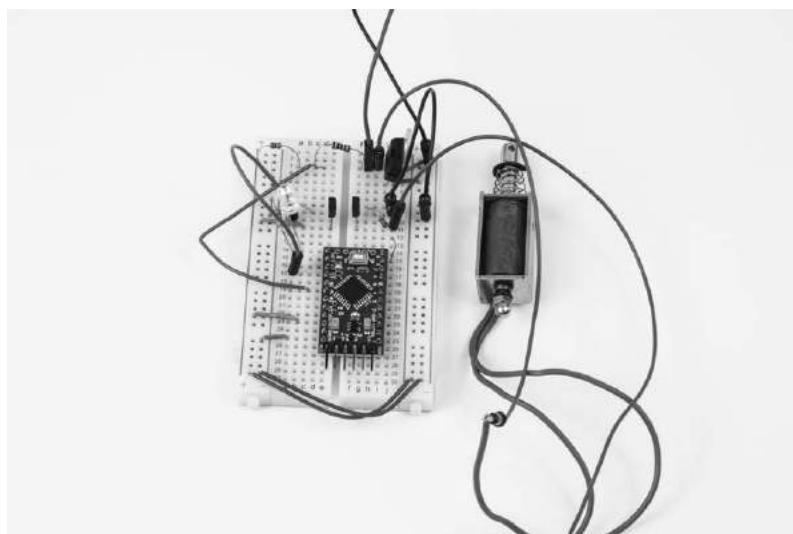

Figure 6-7: The breadboard I used to test the Battery Saver concept and put the software together. Testing your circuit with a solenoid is not required.
Even though this project doesn't require a lot of extra components and peripheral equipment, I still believe it's useful to go through the exercise of wiring a breadboard. A working prototype gives a definitive proof of concept, and it allows you to play with the hardware and software prior to committing to the finished version. When working with the breadboard, I tested the circuit with a solenoid similar to the one used in the finished product (see Figure 6-7).
Figure 6-8 shows the breadboard operating the high-current switch; “Construction” on page 148 describes how to build that switch. To test the circuit without making the high-current switch first, or to use a solenoid by itself (see Figure 6-7), you can connect a lamp, LED, relay, or some other component in place of the switch. Remember: if you use an LED or other polarized device, make certain to get the polarity correct.
5. Insert the Pro Mini microcontroller board in the breadboard. Its position is not critical; anywhere in the general vicinity of where it is in Figure 6-7 is fine.